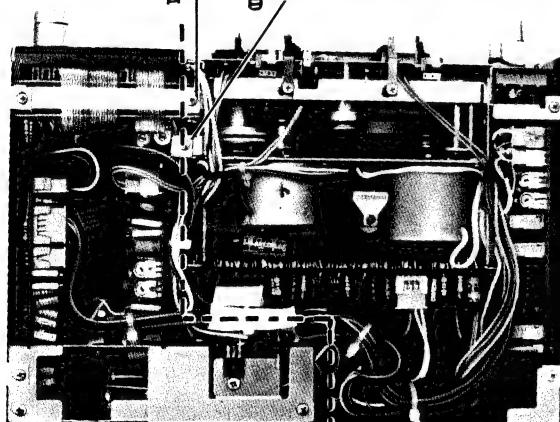
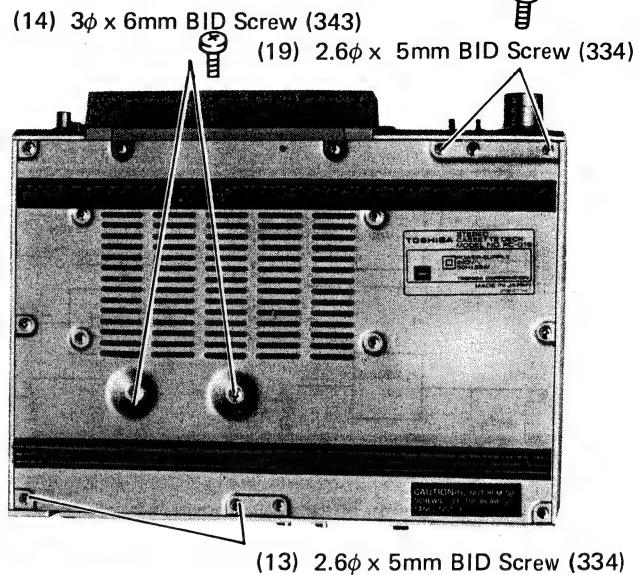

Figure 26.
Figure 24.
1. Remove one screw (12) and four screws (13) and (14) holding the bracket for the transformer as shown in Figure 24 and 25 and the bracket can be removed.
1. After removal of the power transformer mounting bracket, remove two screws (19) and one screw (20) as shown in Figure 24 and 26. The type mechanism assembly and the main chassis assembly can be separated as illustrated with a dotted line. (See Figure 26.) This is capable of checking and replacing parts on the Main P.C. Board and the logic P.C. Board.
1. Remove two screws (21) and (22) holding the LED P.C. Board and the meter drive P.C. Board as shown in Figure 26 and 27, and these P.C. Boards with the tape counter can be removed. Take care of the counter belt looped on the tape counter.